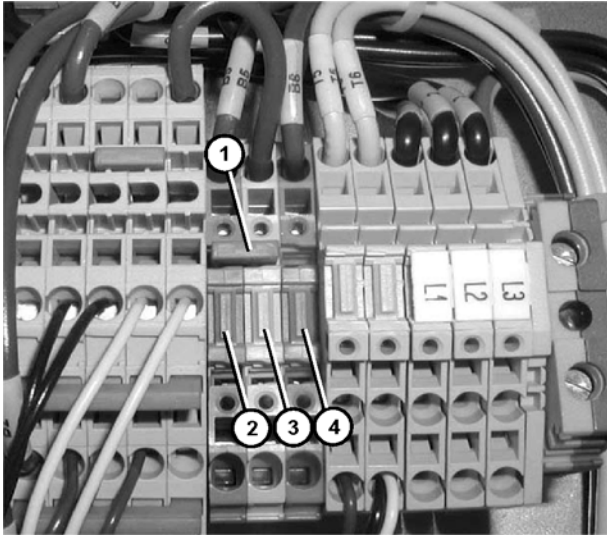

Figure 16
Remove the direction jumper (**Figure 16, item 1**) from the terminals. This jumper is not required.
Connect remote machine interface wires to the terminals (**Figure 16, item 2, 3 and 4**).
Closing a contact between the blue terminal (**Figure 16, item 2**) and the white terminal (**Figure 16, item 3**) will cause the control to run the motor in the forward direction.
Closing a contact between the white terminal (**Figure 16, item 3**) and the orange terminal (**Figure 16, item 4**) will cause the control to run the motor in the reverse direction.